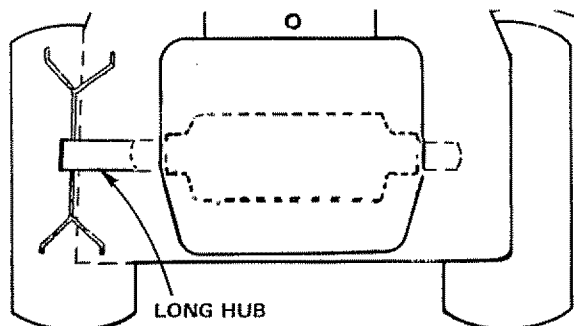

FIGURE 47
**WHEN REPLACING WHEELS ON THE TRACTOR THEY MUST BE MOUNTED WITH THE LONG HUB SIDE TOWARD THE CENTER OF THE TRACTOR. INCORRECT INSTALLATION COULD AFFECT LATERAL STABILITY. SEE FIG. 47.**